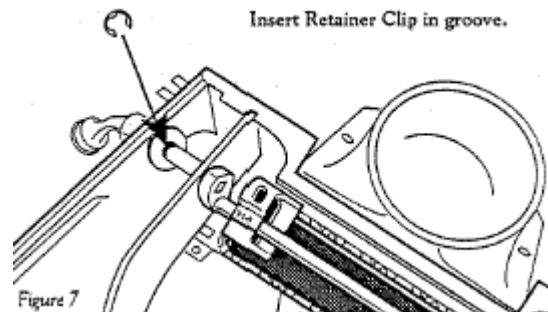

Figure 9
8. Push the washer against the stove wall and use needle nose pliers to insert the retaining clip onto the groove in the rod to lock the rod in place (**Fig. 9** previous page).